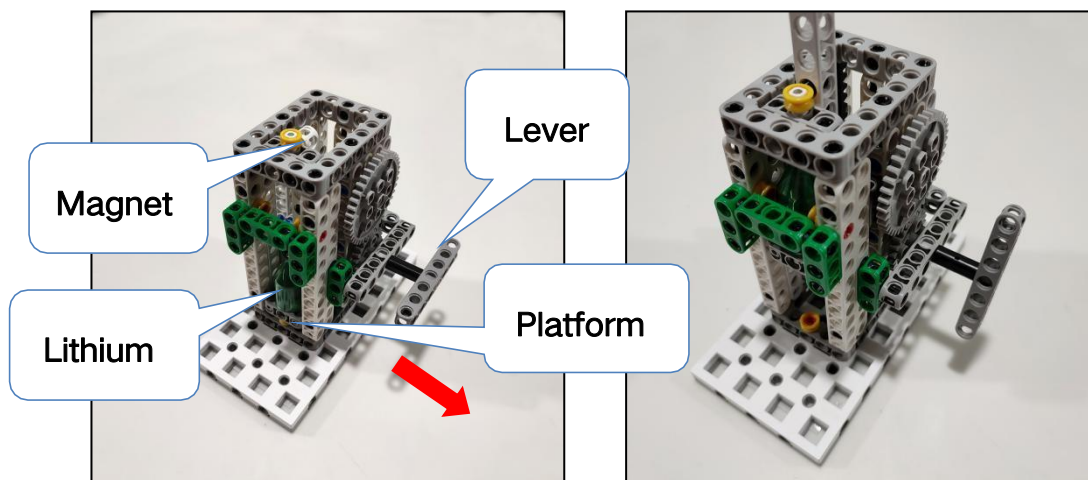

Figure 3-4-1 Initial Position
3.4.1 Salt Lake lithium extraction model at its initial position can be placed at either location 1, 3, 4, 5, 6, 7, 8 or 9 on the arena map. The red arrow shown below in figure 3-3-1 is pointing toward the same direction as the red arrows on the arena map shown in section 2.1. Orientation of this model is fixed as shown in figure 3-4-1. Lithium model is placed on the bottom platform and the lever is parallel to the ground.